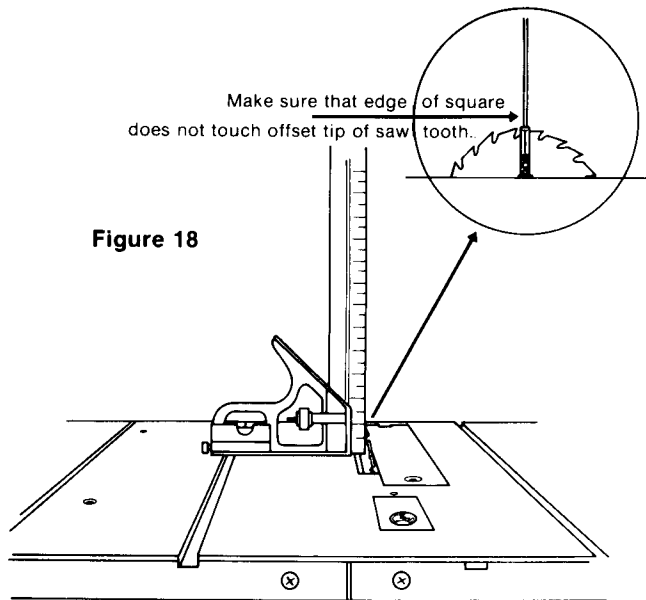

Figure 18
2. Place a combination square (any type of square will serve, but a combination square is best.) on the Table Top and against the blade as shown in **figure 18**.